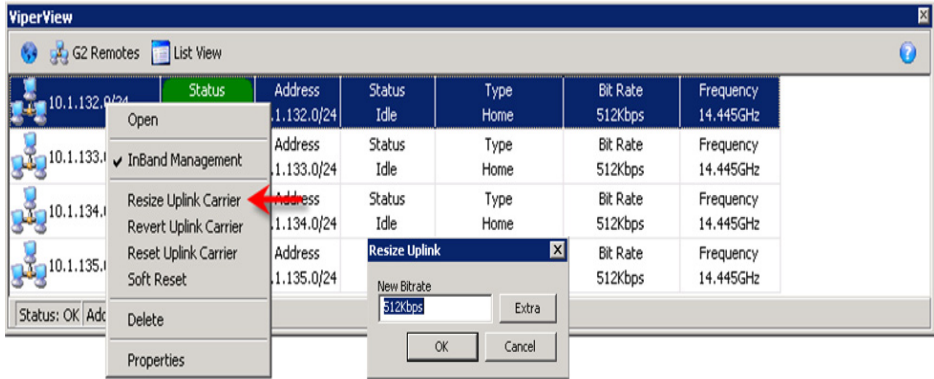

Figure 3-37 Resize Uplink Carrier, Subnet
5. Right-click on the inbanded subnet in the Subnet Manager View and select **Resize Uplink Carrier** from the drop-down menu (figure 3-37).